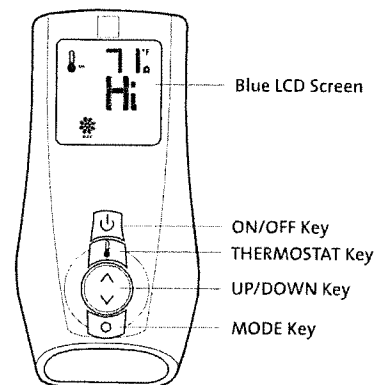
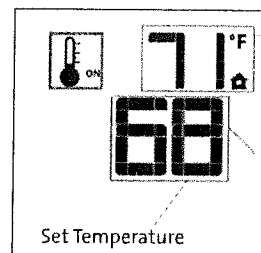
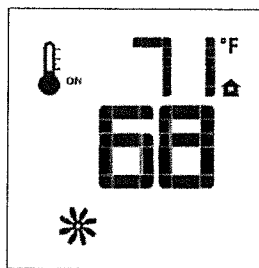

Figure 7.2 Remote transmitter function keys.
Figure 7.10 Thermostat ON.
Figure 7.14 Fan Mode.
The Transmitter features a simple button layout and informative display screen. See figs. 7.2 - 7.3.
- To activate this function, press the Thermostat Key, (Fig. 7.2) The display will indicate that the room thermostat is "ON" and the current Set Temperature is now displayed. Fig. 7.10.
The fan speed can be adjusted through six settings. To activate this function, press the Mode Key (fig. 7.2) to index to the Fan Control icon. See fig. 7.14. The fan will not function at all if it is not first set to ON.